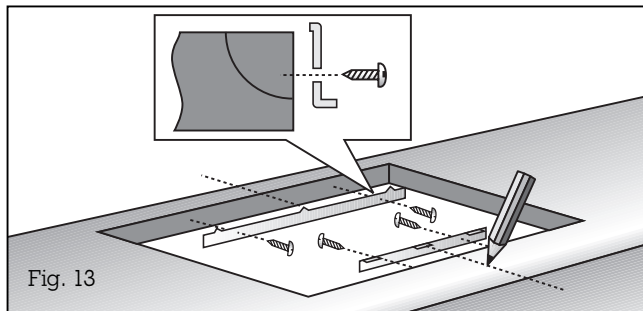

Fig. 13
- **Mark the centre** of the recess **exactly**. Secure the longer securing rail on the rear edge and the shorter securing rail on the front edge of the recess. Make sure that the lugs of the securing rail lie on the worktop and that the centre marking of the securing rail is precisely flush with the centre marking on the worktop (Fig. 13).